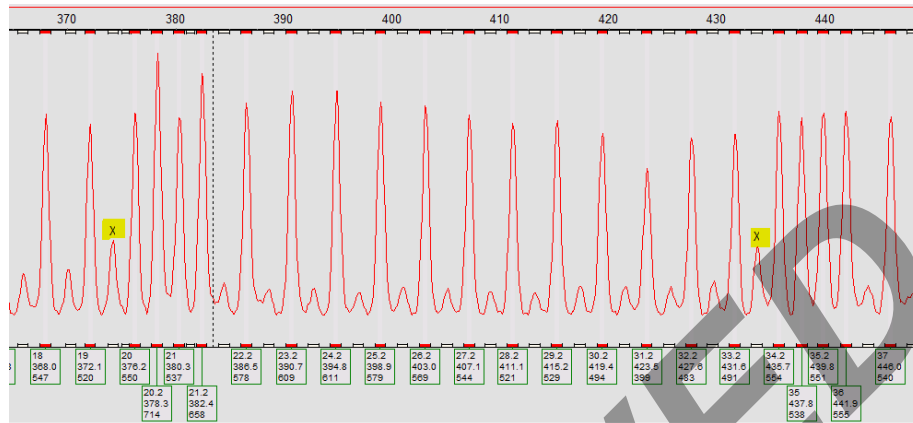

Figure 16. Electropherogram of Global Filer Express Allelic Ladder showing artifact peaks in virtual bins
3. The Global Filer Express allelic ladders are represented in Figures 14 and the allelic ladders may have artifact peaks that appear in virtual bins. With the correct settings, these peaks will appear with an "X" (see Figure 16).